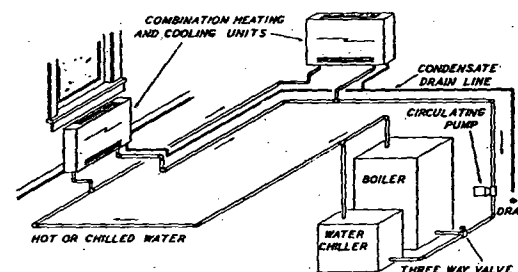

FIG. 1. COMBINATION SUMMER AIR CONDITIONING AND HOT WATER HEATING SYSTEM
1. *Room units* resembling convectors and containing both heating and cooling coils. These units are used in place of the conventional radiator or convector. They can be installed in all rooms of the house to provide complete summer cooling, or they can be used in only one or two rooms. This arrangement is shown in Fig. 1.